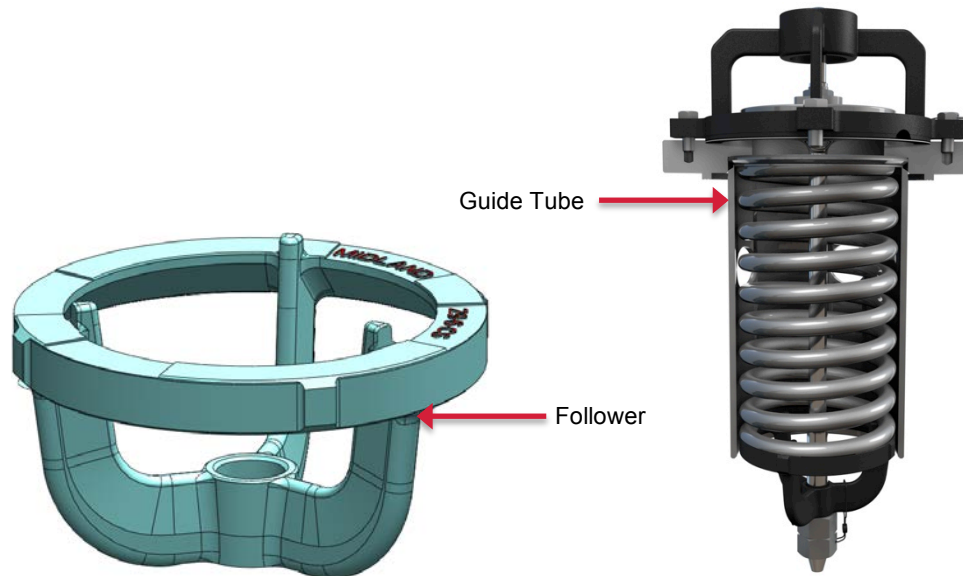

Figure 4-10 Spring Follower and Guide Tube
- 4.1.8.1 This structural part has guides on its outer edges (Figure 4-10). Move it up and down the length of the guide tube as indicated below. If it binds, look for dents or gouged surfaces on the inside of the guide tube. Repair the damage to allow free movement of the spring guide.